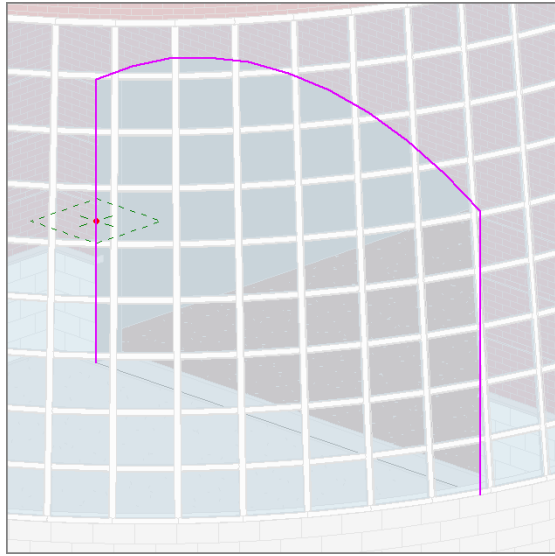

FIGURE 17.31: Picking the exterior edge for the sweep's path
14. Pick the exterior corners of the opening forming the arc and the two straight lines to either side of the opening (see Figure 17.31).